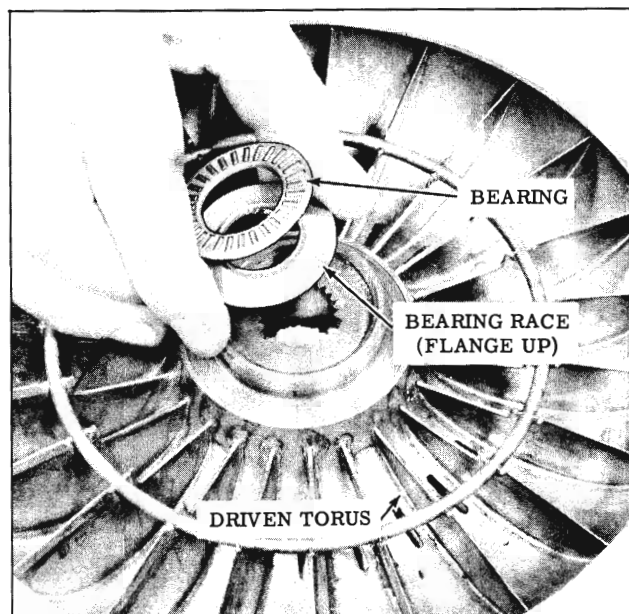

Fig. 3-114 Installing Race and Bearing
6. Install flanged race into driven torus (flange side up). (Fig. 3-114)